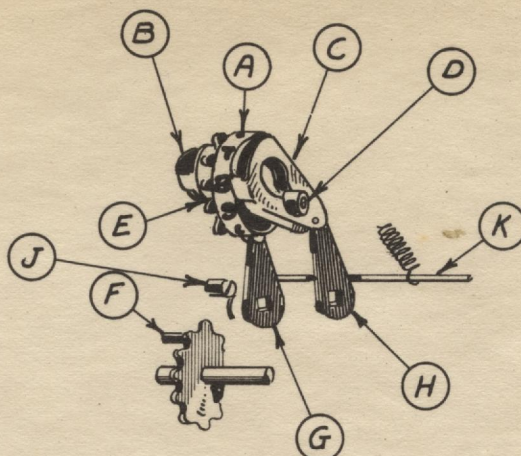

FIG. 1
- 117 PUSH THE DIAL (A) BACK INTO CAMS (B) AND (C) UNTIL HUB (D) IS IN POSITION SHOWN (THIS WILL ALLOW THE DIAL TO REVOLVE FREELY) ROTATE THE DIAL UNTIL THE TOOTH SPACE (E) (BETWEEN THE 'B' AND '9' ON THE DIAL) IS IN A POSITION SO THAT IT CAN BE DROPPED INTO MESH WITH TOOTH CONTAINING PIN (F) - THIS IS THE CORRECT TIMING POSITION. - NOTE THAT LEVERS (G) AND (H) ARE INSERTED BETWEEN ADJUSTING SCREW (J) AND SPRING ROD (K).
- 120 PLACE SPRING (L) UPON THE COLLAR (M) AND THREAD IT UPON THE SQUARE SHAFT.
- 121 LIFT THE LEVER (G) FIG. 1 INTO PLACE AND THREAD IT WITH SQUARE SHAFT. - PLACE SPRING (N) UPON SPACING COLLAR (P) AS SHOWN, AND THREAD IT UPON SQUARE SHAFT.